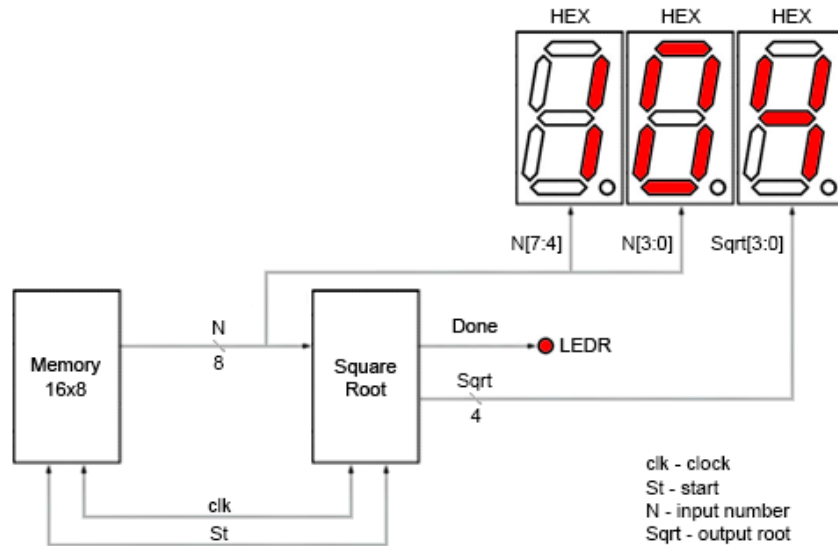

Figure 5. Top-Level Block Diagram for FPGA Synthesis
4. Use your Square Root module to create a top-level Verilog file that will be used to program the FPGA. Initialize your modified 16x8 RAM to store the test cases. Refer to Figure 5.